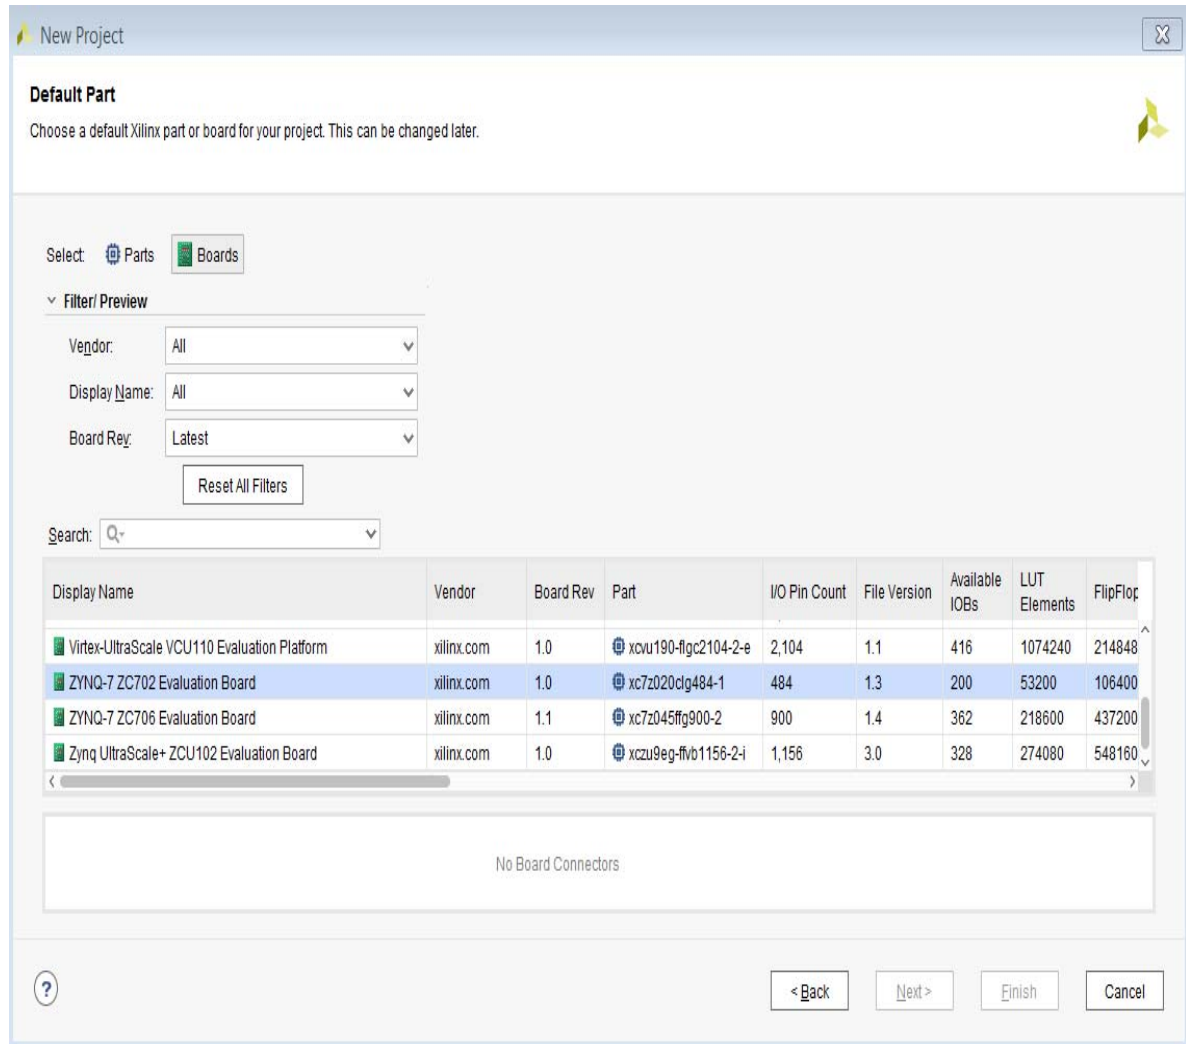

Figure 10-4: Specify the Vivado Project Details
- b. Select the **ZYNQ-7 ZC702 Evaluation Board** (Figure 10-4).